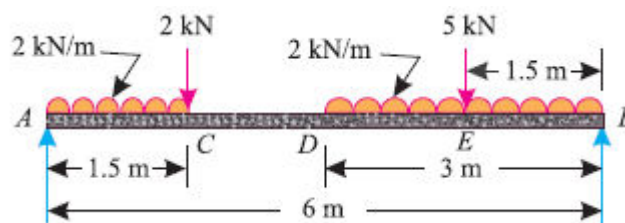

Fig.6
9. A simply supported beam AB of span 6 m is loaded as shown in Fig.6. Determine the reactions at A and B. [L4][12 M]